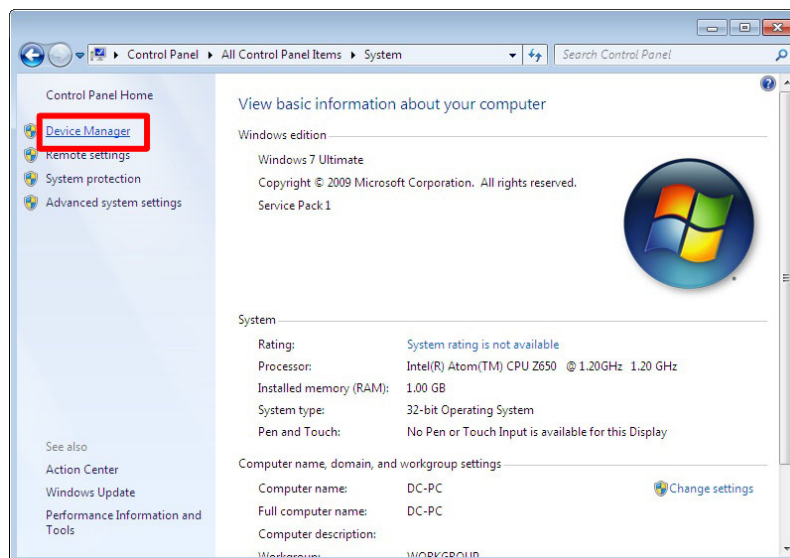

Figure 6-14: Click the Device Manager Tab
Step 3: Click the **Device Manager** tab (Figure 6-14).